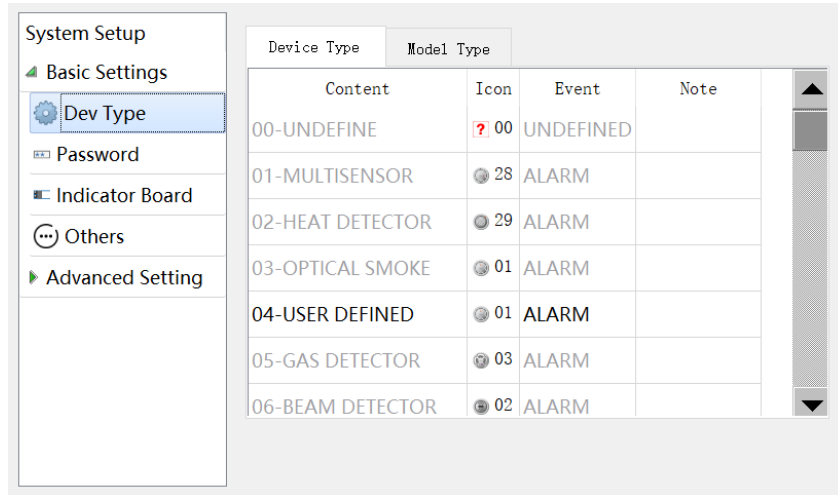

Fig. 5-2
- **Device Type** : clicking Dev Type in Basic Setting menu, the menu shown in Fig. 5-2 pops up. Users can define the name and picture of the device type according to their needs. Only the highlighted ones can be defined, and the gray ones are devices pre-sorted in factory and cannot be defined by user.